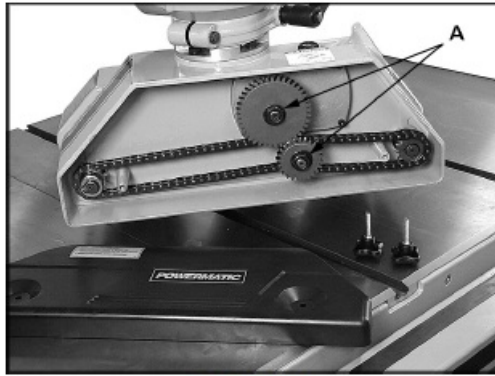

Figure 13
2. Unscrew the two knobs and pull off the back cover to expose the gear system, shown in Figure 13.
3. Remove hex nuts and flat washers (A, Figure 13) with a 14mm wrench.
6. Install flat washer and hex nut (A, Figure 13) on each shaft, and tighten.
Lubricate the drive chains (shown in Figure 13) with good quality all-purpose grease every 3 months, or more frequently if needed.